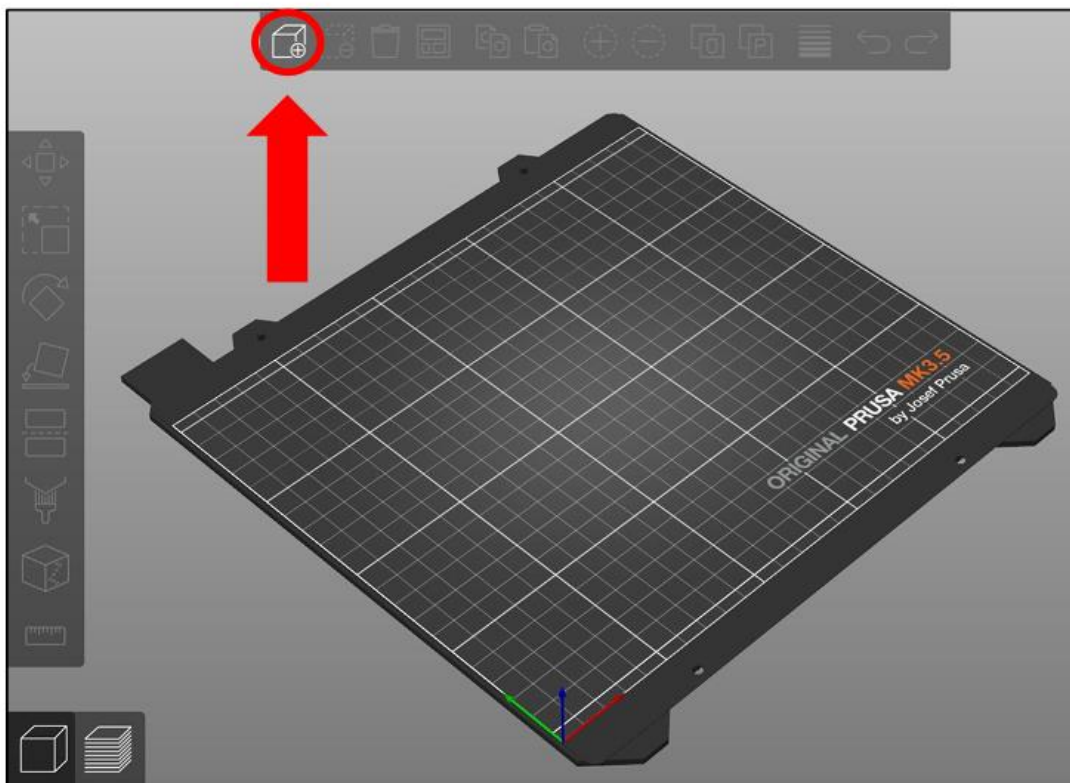

Figure 1. Button to Import Files into PrusaSlicer.
- 2.) Open PrusaSlicer and click the “Add...” button (see Figure 1), then select the device file from the downloads folder.